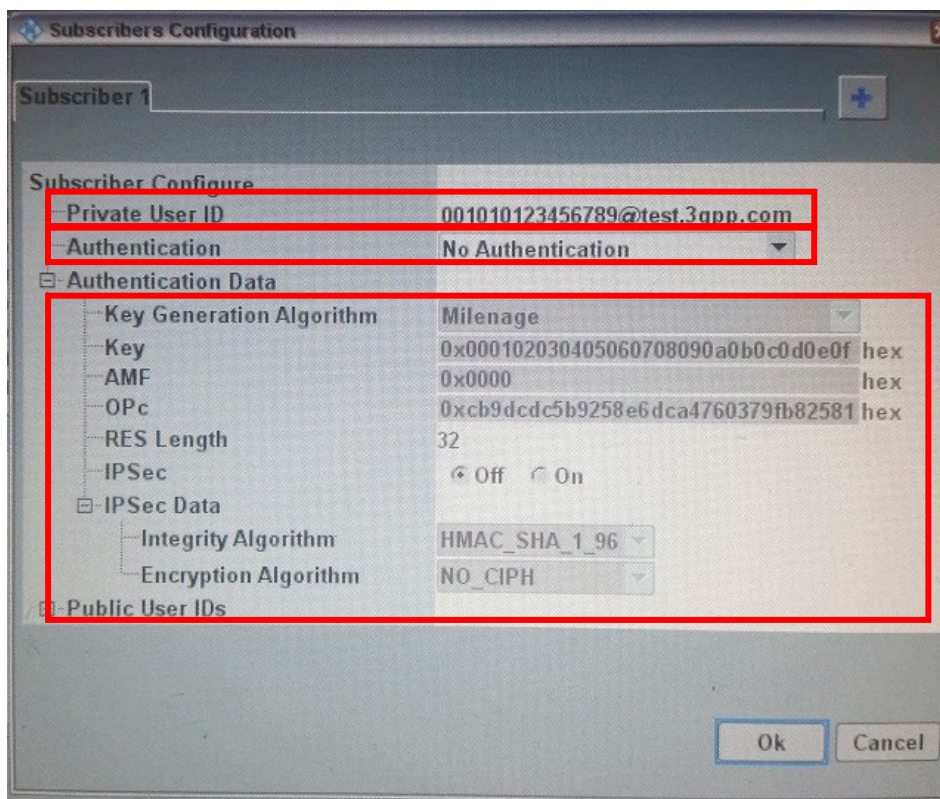

Figure 23: Subscribers Configuration
11. If user authentication is needed, adjust the **Authentication Data** to the SIM card in use and the device under test (Figure 23).